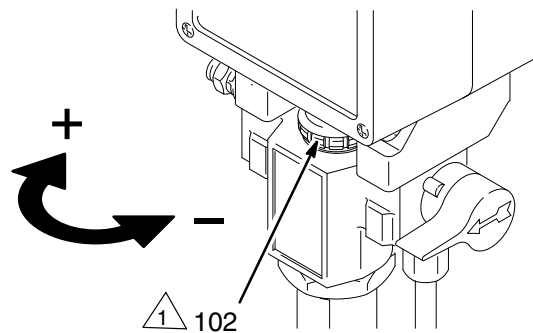

Fig. 11
1. **Check the packing nut/wet-cup daily (102).** Relieve pressure first. Keep the wet-cup 1/3 full of TSL at all times to help prevent fluid buildup on the piston rod and premature wear of packings.
2. **Tighten the packing nut/wet-cup (102) just enough to stop leakage.** Over-tightening causes binding and excessive packing wear. Use a round punch or brass rod and a light hammer to adjust the nut. See Fig. 11.